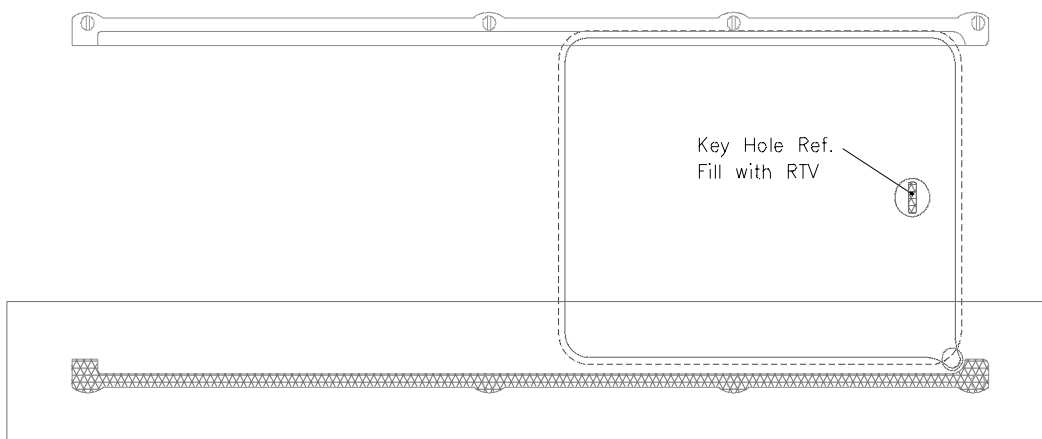

Figure 6.
- 10.6 Apply a bead of RTV 108 to the exposed likeness of the trough (Figure 6) on the canopy. Fill the locking mechanism hole in the knob of the sliding window. Use only as much as required to keep the next steps from being messy.